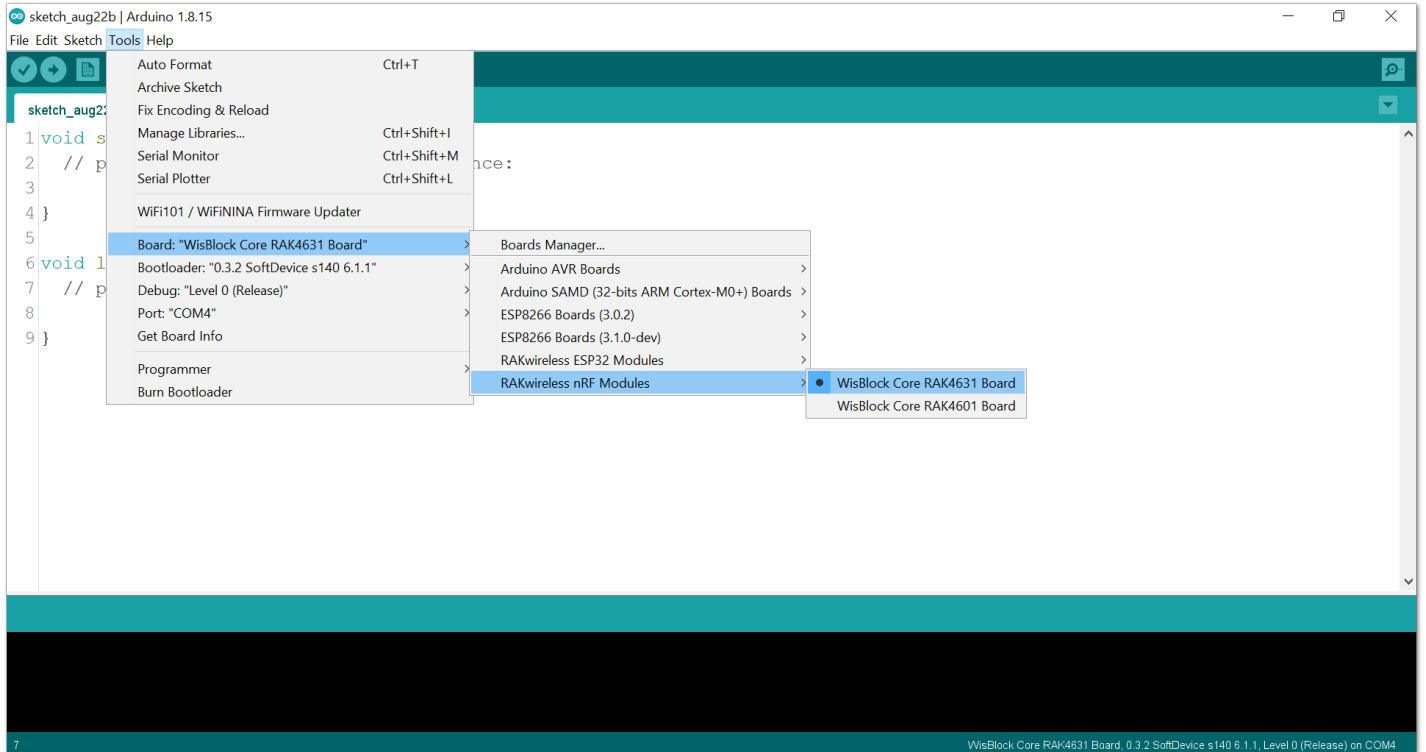
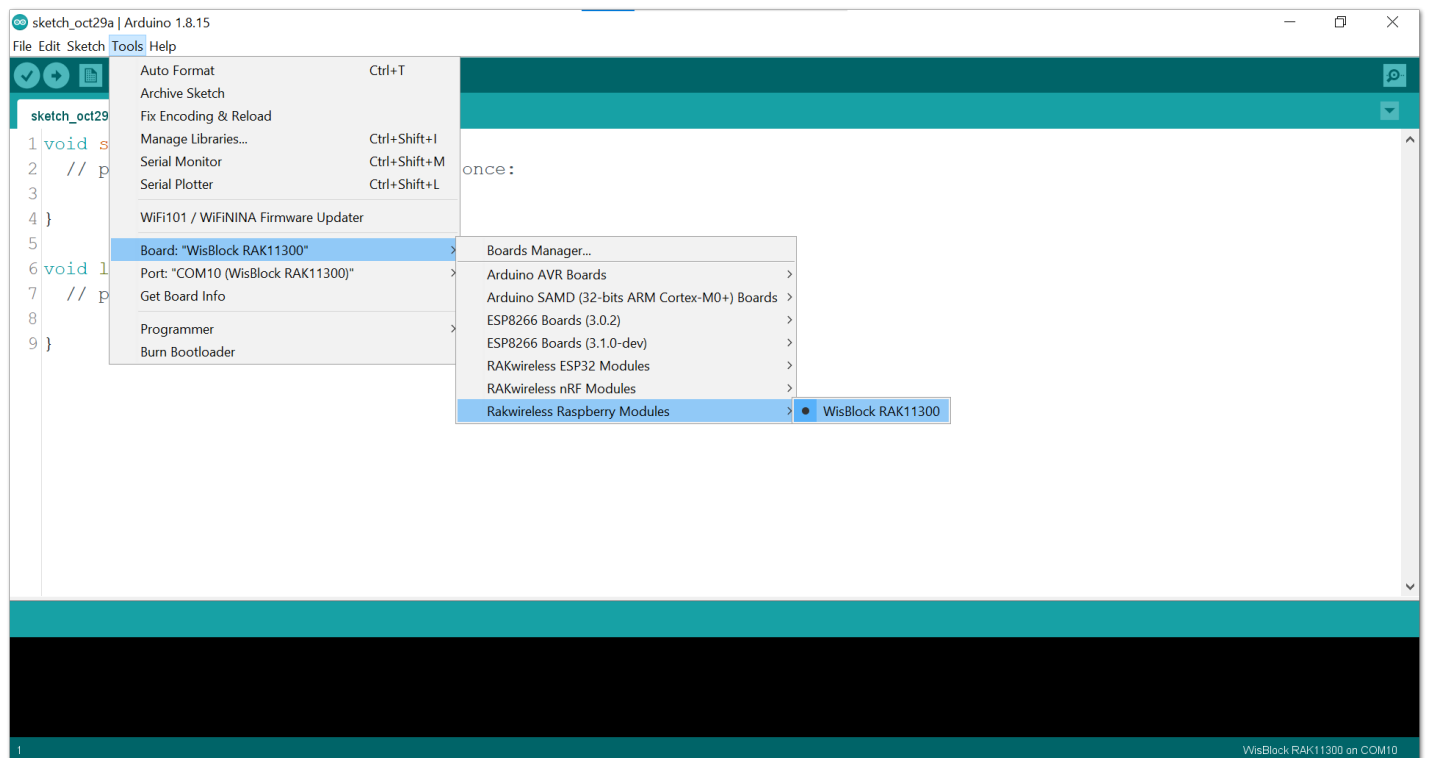

Figure 6: Selecting RAK4631 as WisBlock Core
Figure 8: Selecting RAK11300 as WisBlock Core
1. You need to select first the WisBlock Core you have, as shown in **Figure 6** to **Figure 8**.